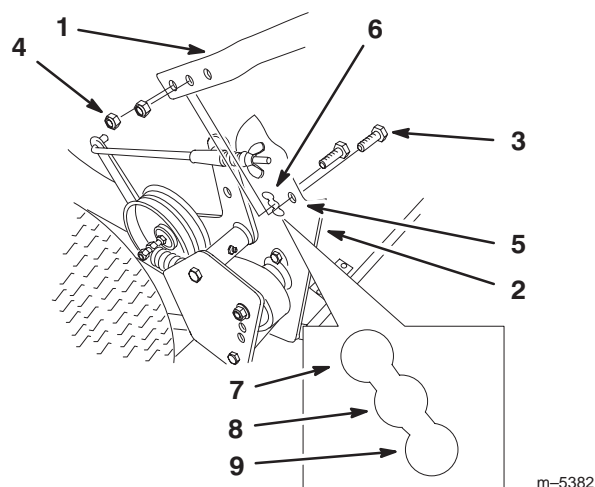

Figure 6
1. Align handle with upper mounting hole in rear frame (Fig. 6).
2. Secure each upper mounting hole with a flange bolt (3/8 x 1 in. (26 mm)) and flange nut (Fig. 6).
3. Select low, middle or high position for the lower mounting hole (Fig. 6). This allows the upper handle to be adjusted to the user's height preference.
4. Secure each lower mounting hole with a flange bolt (3/8 x 1 in. (26 mm)) and flange nut (Fig. 6).